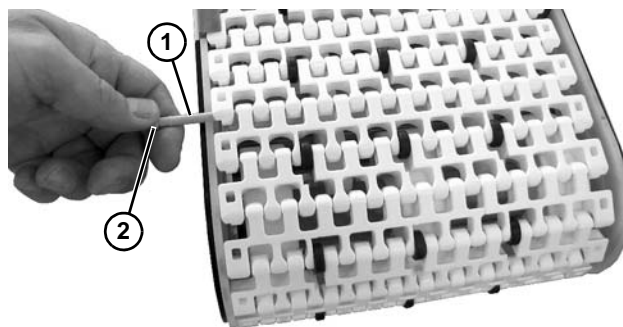

Figure 22
10. Insert the belt rod (**Figure 22, item 1**).
12. Lightly tap the head (**Figure 22, item 2**) of the rod with a hammer until it snaps into position.